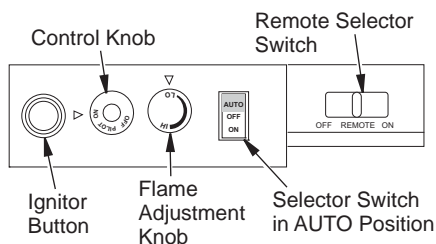

Figure 13 - Control Knob and Ignitor Button Locations for Remote Control
1. After lighting, let pilot flame burn for about one minute. Turn control knob to ON position. Adjust flame adjustment knob anywhere between HI and LO. Set toggle selector switch to AUTO. Slide remote selector switch to REMOTE position (see Figure 13). **Note:** The burner may light if hand-held remote was on when selector switch was last turned off. You can now turn the burner on and off with the hand-held remote control unit.